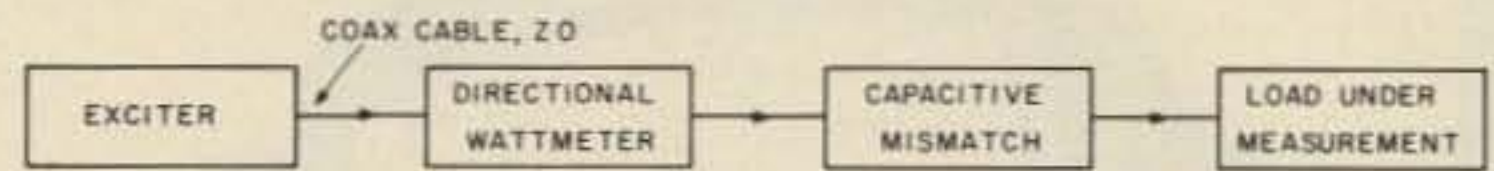

Fig. 5.
2. The measurement circuit in Fig. 5 was constructed. The vswr of the load plus each of the capacitive mismatches was measured and recorded.